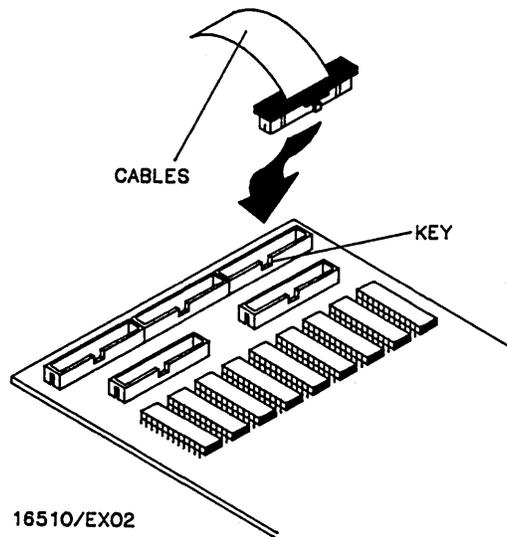

Figure 6-16. Card Connectors
- g. Remove cable(s) from card connector(s) and install new cable(s). See figure 6-16.